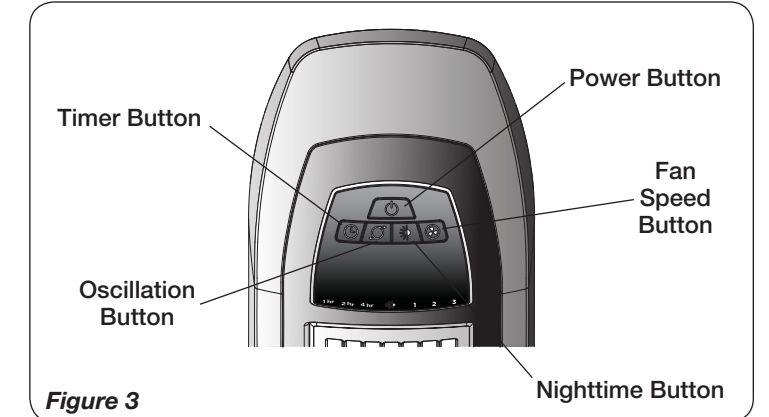
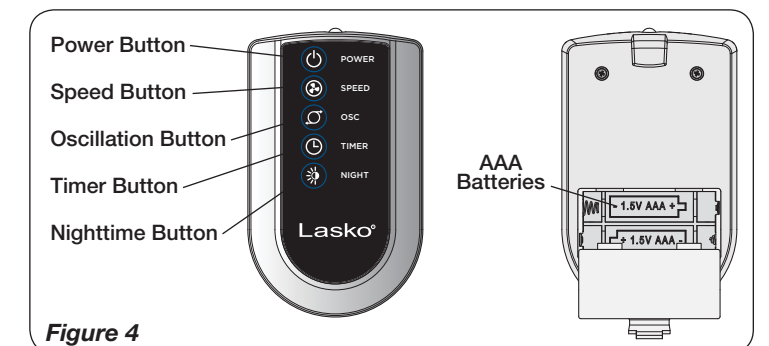

Figure 3
Figure 4
This Fan may be operated by the Manual Controls located on front of the unit (Figure 3) or by the Remote Control. (Figure 4)
1. Install two "AAA" batteries (not included) as shown in Figure 4.